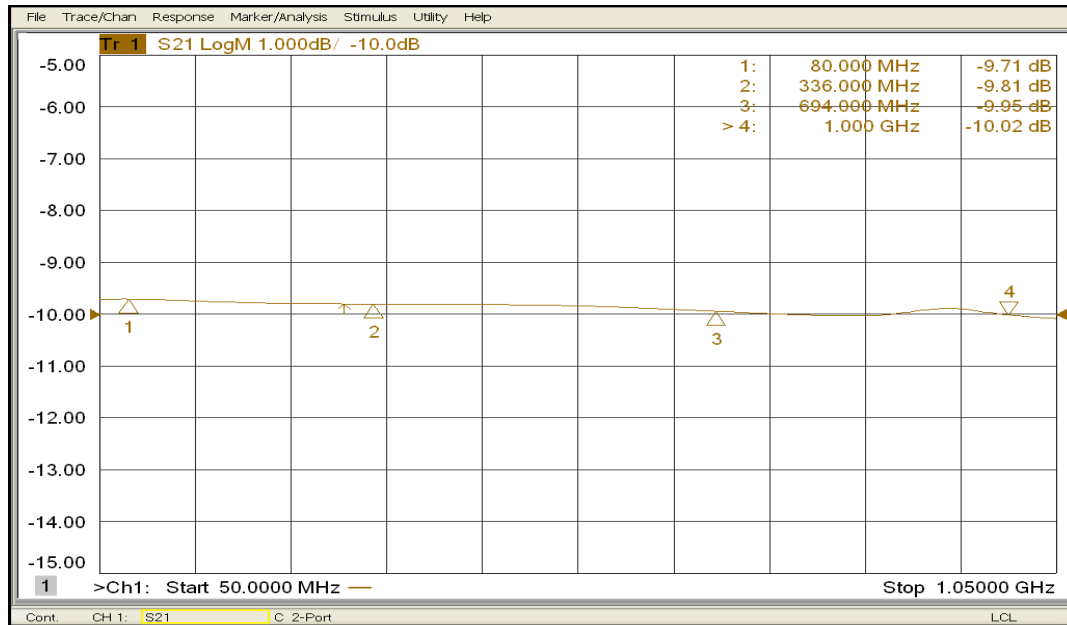

Figure 4-6. Typical Eight-Way Splitter Insertion Loss
4. 8-way splitter performance (A4, A5) and the 16-way combiner performance (A22) is displayed in Figures 4-6 and 4-7.